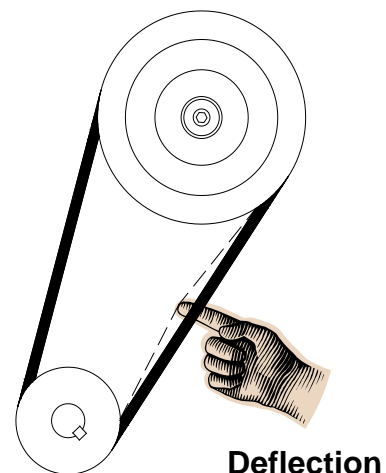

figure 56
- 5) Push on the center of each belt as shown in (fig. 56). When properly tensioned the amount of deflection should be approximately 0.75" (19mm).